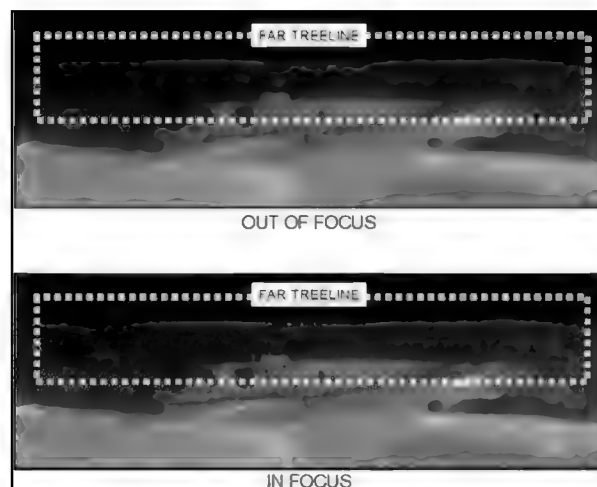

Figure E-14. Focus on far tree line.
- Press the FOCUS switch in either direction until the tree line is in focus (Figure E-14, page E-10).